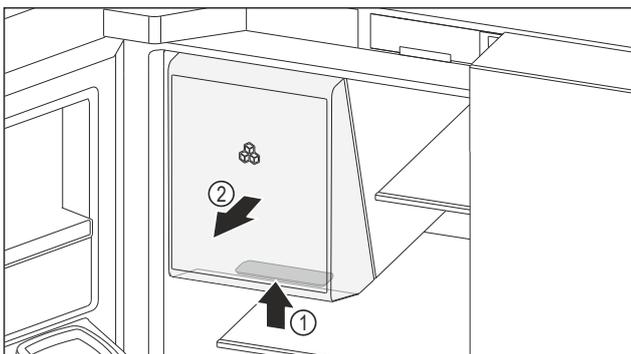

Fig. 160 Removal of ice storage compartment
- ▶ Reach the recessed grip Fig. 160 (1) at the bottom of the ice storage compartment and pull out the ice storage compartment forwards at the same time Fig. 160 (2).